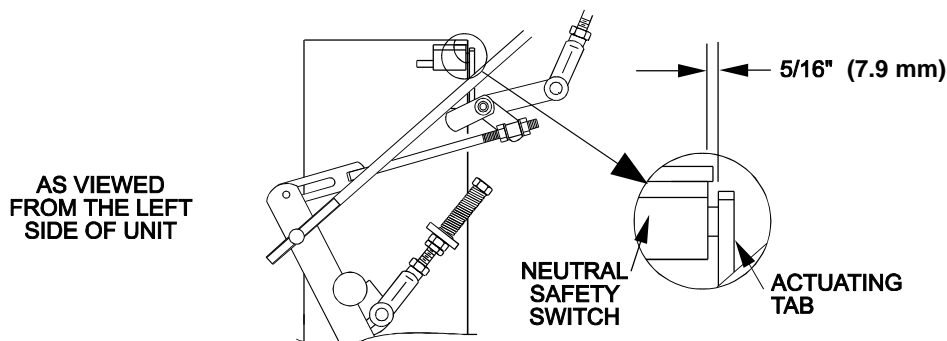

FIGURE 18
3. Pull the speed control lever back to neutral. Check that the neutral safety switch actuating tab has depressed the plunger of the switch so that there is about 5/16" (7.9 mm) between the tab and the switch. See Figure 18. If necessary, move the switch fore and aft.